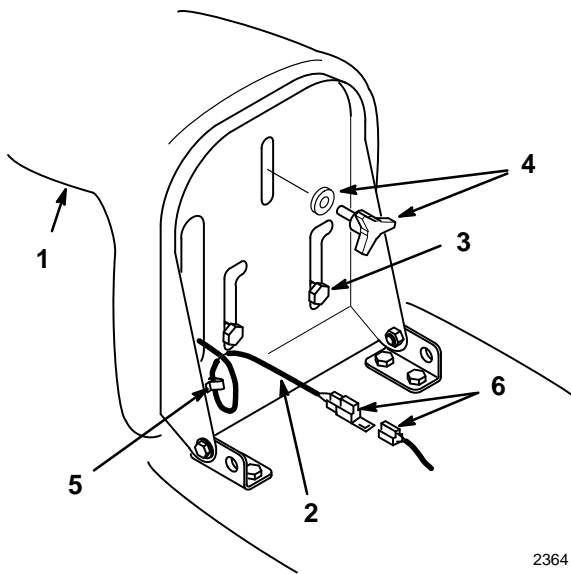

Figure 3
1. Insert seat switch wire cable through the hole in the seat base (Fig. 3).
2. Position the seat onto the seat base by inserting the two shoulder bolts through key hole openings at the end of both slots (Fig. 3).
3. Thread the knob and flat washer into the rear center hole in the seat (Fig. 3). Adjust the seat and tighten the knob.
4. Push the seat switch connector fully into the wire harness connector (Fig. 3).
5. Secure the seat switch wire cable to seat base with wire clip (Fig. 3).
The “Key Choice” switch is located on the seat bracket in front of and below the seat. Refer to Operator’s Manual, Fig. 3 in Operation Section.